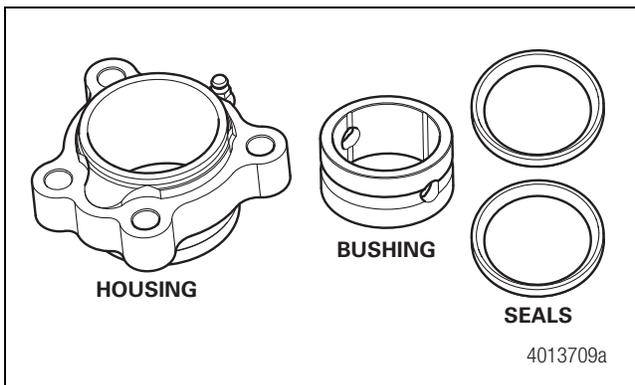

**Figure 11.41**
- 6. Remove the first seal. Figure 11.41.